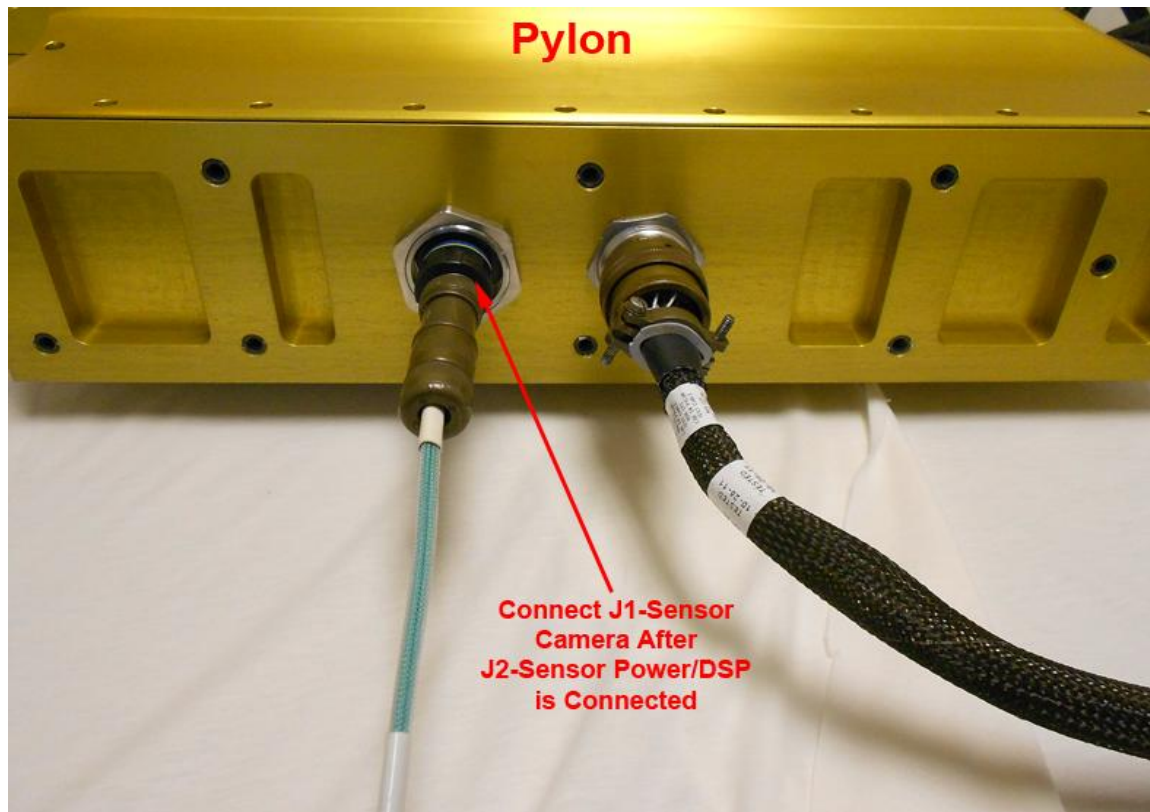

Figure 2.2.14 Connecting the sensor camera cable to the Sensor Head.
10. Connect the framegrabber cables from the Converters connected to J1 on the Data Acquisition System to J1 on the Sensor Head. See **Figure 2.2.10**: Connecting Fiber Cables to Converters, and **Figure 2.2.14**: Connecting the sensor camera cable to the Sensor Head.
8. Connect the sensor camera cable that runs from J1 on the Data Acquisition System to J1 on the Sensor Head. See **Figure 2.2.14: Connecting the sensor camera cable to the Sensor Head**.